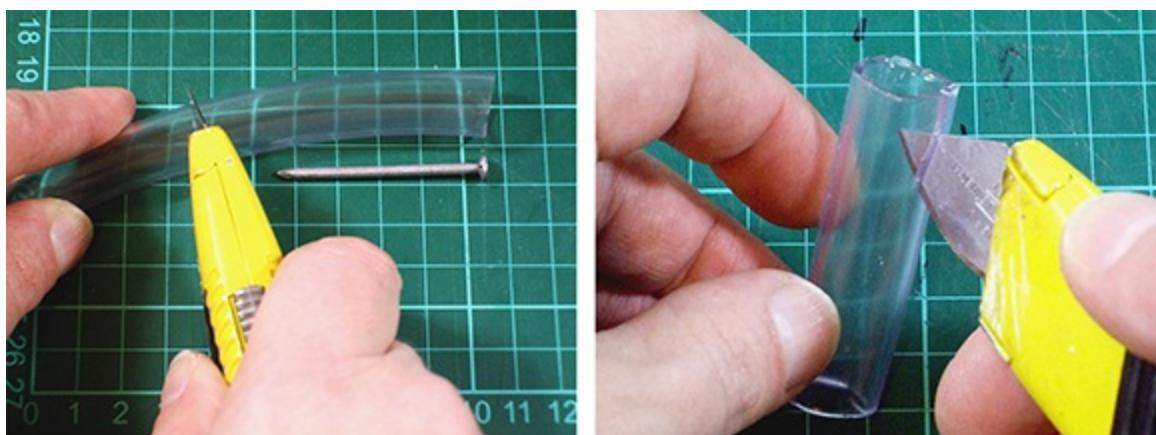

Figure 10-4: Cutting your vinyl tube mold.
- 1. Cut a small section of the large vinyl tube, about 2cm (a half-in.) longer than your nails, as shown in Figure 10-4.**